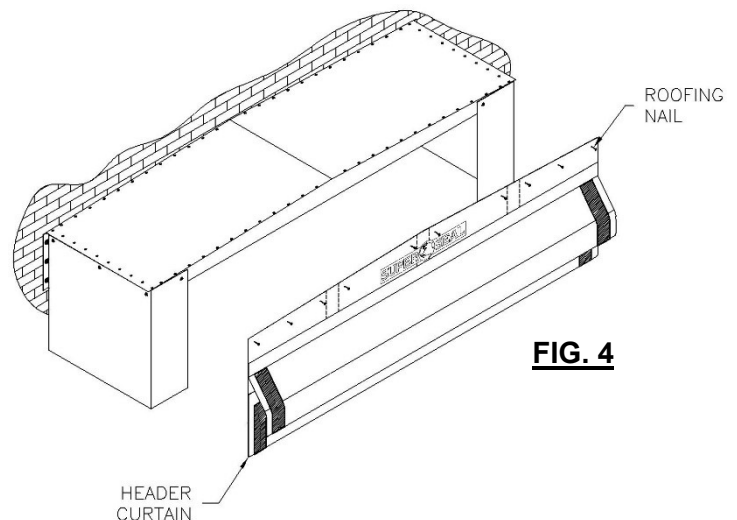

FIG. 4
- Match the top center of header curtain with top of center head frame (Fig. 4).